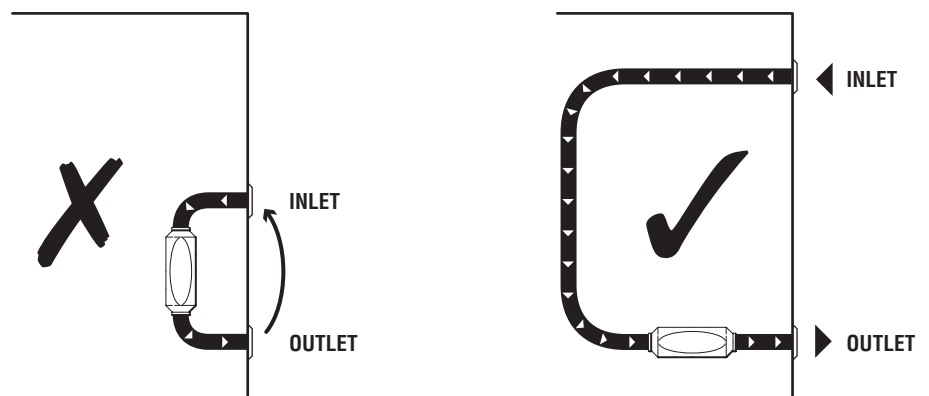

Figure 25. Air Short Circuit.
- Position inlet and outlet air ducts away from any obstructions and as far apart as possible to prevent air short cycling (refer to figure 25).